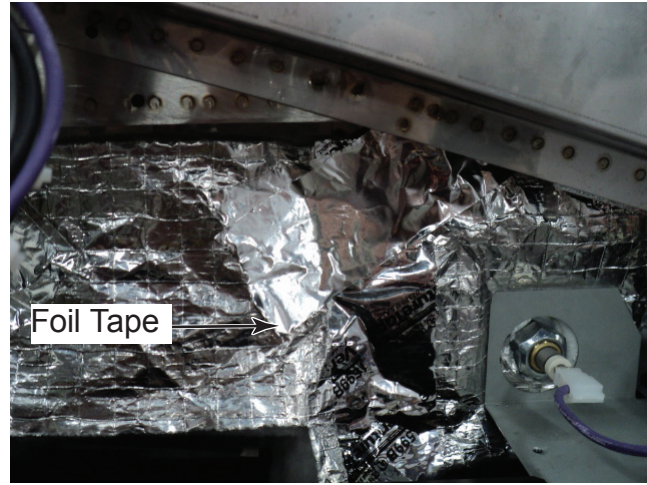

Figure 16
- Reinstall insulation around waveguide and use foil tape included in kit to seal cuts in insulation in all 4 corners of waveguide (Figure 16).